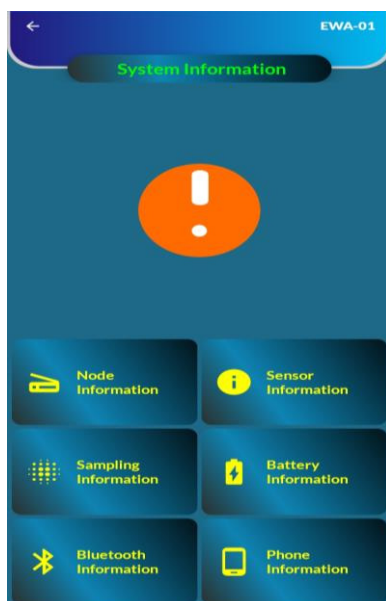

Figure 6-18 System information
- Click on the “System Information” tab from the main menu. A window as shown in the figure 6-18 will be displayed. User can click on any tab to see the related information.